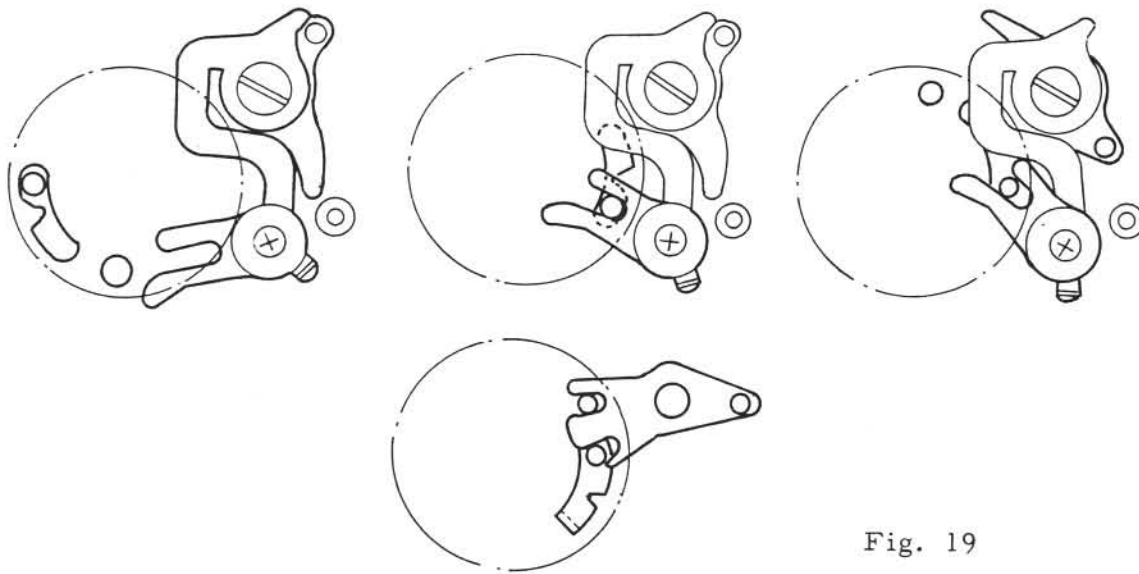

Fig. 19
- 17-12 Turn both the curtain gears together to engage it with the bounce prevention levers as shown in Fig. 19.